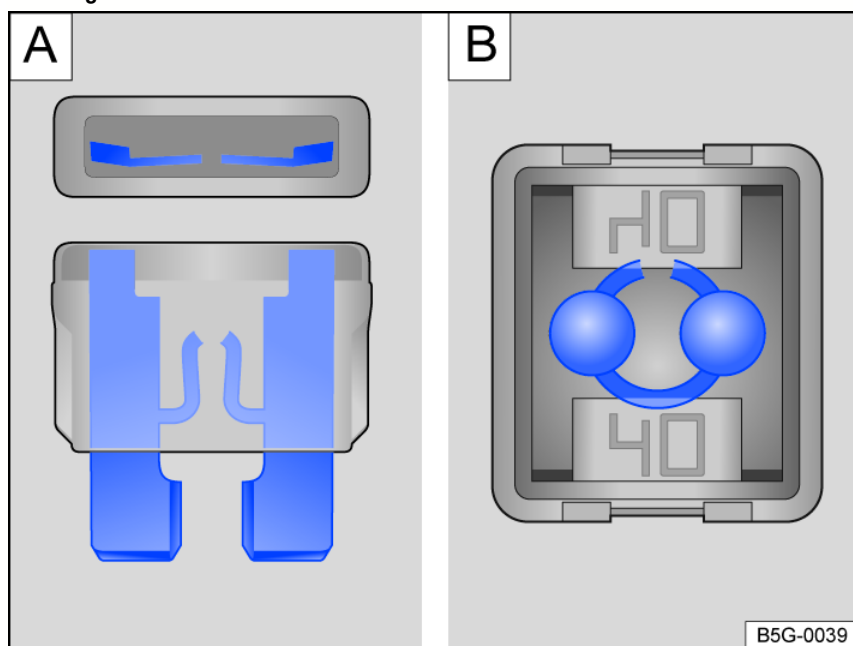

Fig. 180 Blown fuse (general example).
- A blown flat connector fuse (ATO®, MINI®) has metal strips that have burned through, which you can see through the transparent housing from above and from the side [fig. 180 \[A\]](#).
- A blown block fuse (JCASE®) is recognizable by the melted metal strip seen through the transparent housing from above [fig. 180 \[B\]](#).